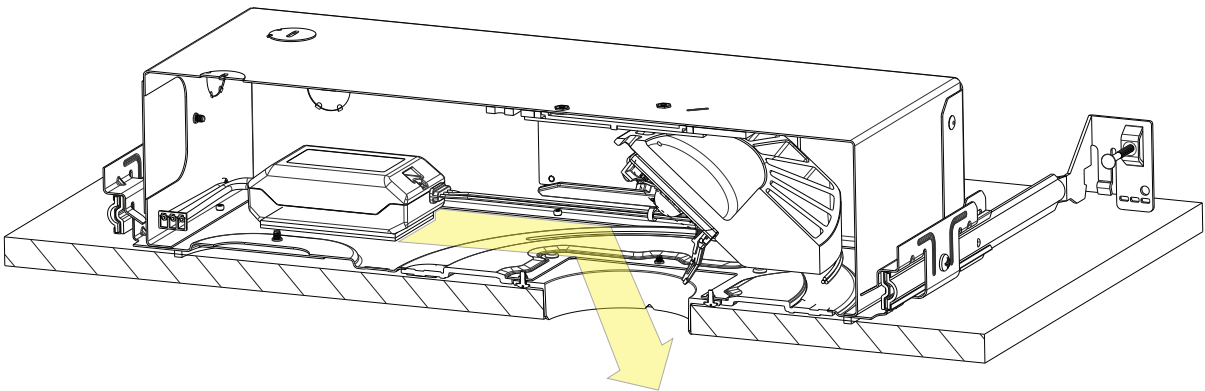

fig. 36
- g. Grasp the cable at the aperture opening and pull the cable to detach the power supply from the hook and loop fastener inside the fixture (see fig. 36).